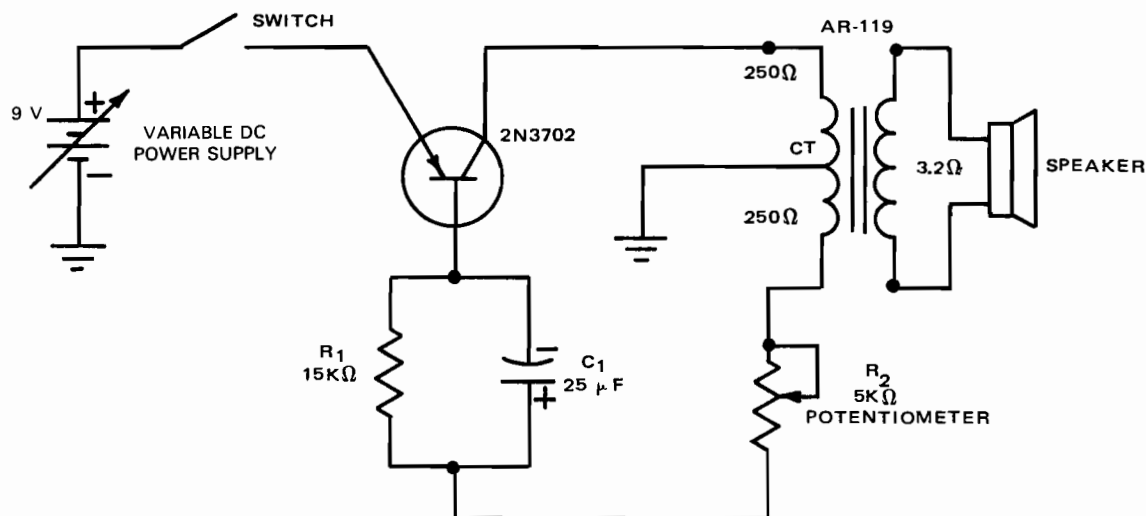

Fig. 18-1-1
1. Connect a Hartley oscillator circuit as shown in Fig. 18-1-1.
1. When looking at the circuit shown in Fig. 18-1-1, what component identifies it as a Hartley oscillator? _____